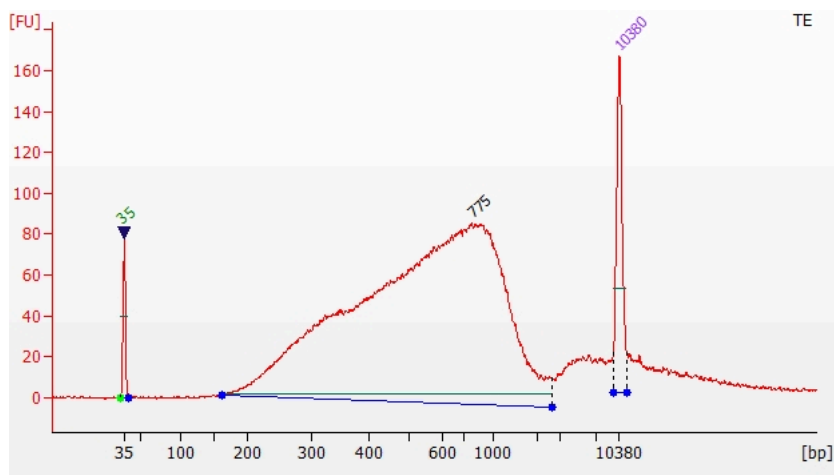

Figure 2 Agilent 2100 Bioanalyzer results of 0.8x beads purification fragmentation product
**CAUTION** Different instruments may show some differences in test results. Figure 2 shows the results in Agilent 2100. Use 1  $\mu\text{L}$  of elute product for Agilent 2100 High Sensitivity test and ensure that the smear size is 100 bp - 3000 bp with the peak size between 600 bp - 850 bp. For example: 200 ng gDNA dissolved in TE Buffer (pH 8.0), when fragmentation time is 8.5 min, the size distribution of fragments is shown in Figure 2. If the peak size is too large or too small, it is recommended that you re-adjust the incubation time at step 6 in section 3.3.2 (incubation time of 7.5 min - 15 min at 30  $^{\circ}\text{C}$  is recommended).